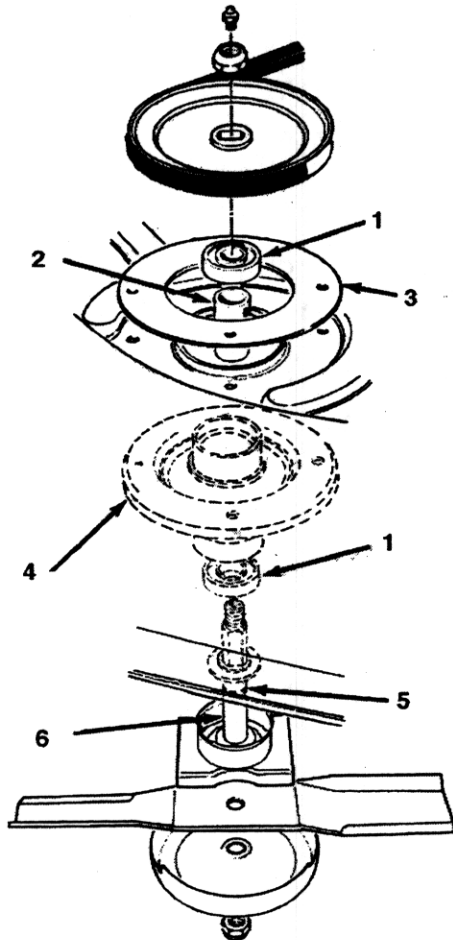

Figure 13
8. Slide the pulley end of the spindle assembly through the hole in the cutting unit. Mount the spindle assembly in place with the support ring, capscrews and nuts (Fig. 13).